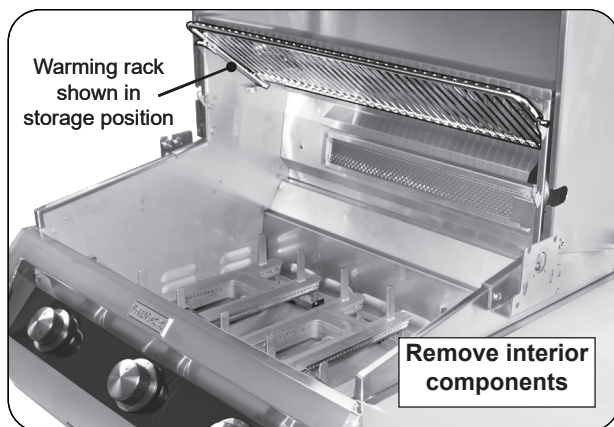

Fig. 42-1 Prepare grill for rotissing
1. Set the warming rack to storage position, remove the backburner cover and cooking grids (see Fig. 42-1).